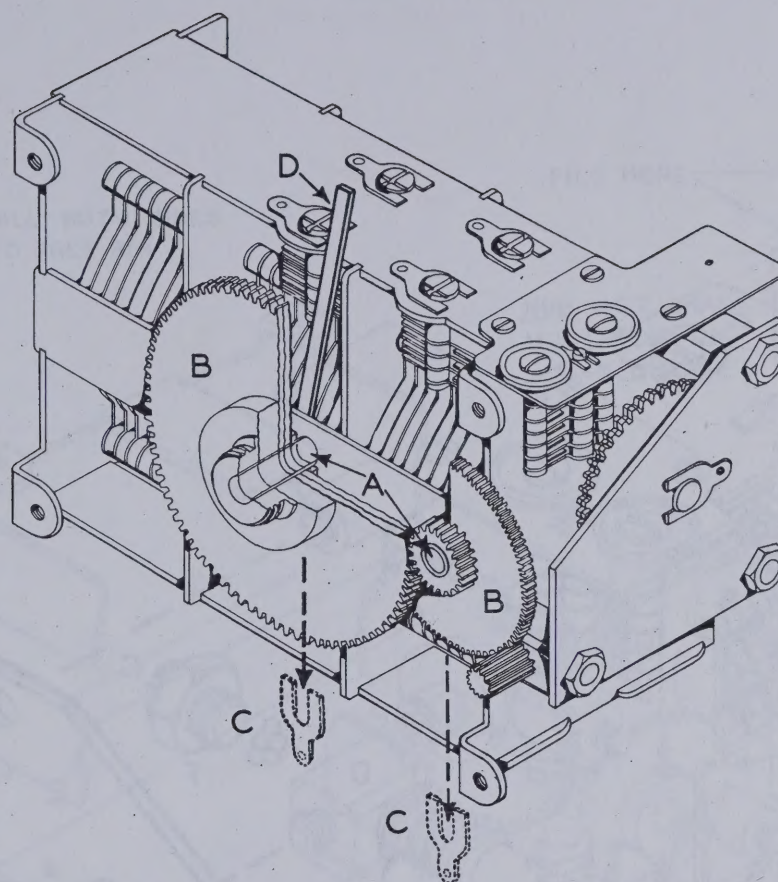

Figure 9 — Condenser — Removal of Drive Gears
8. (FIG. 9 and 10) Remove the gears (B) by removing spring forks (C) from the rear ends of the two shafts (A). Remove the forks by raising the